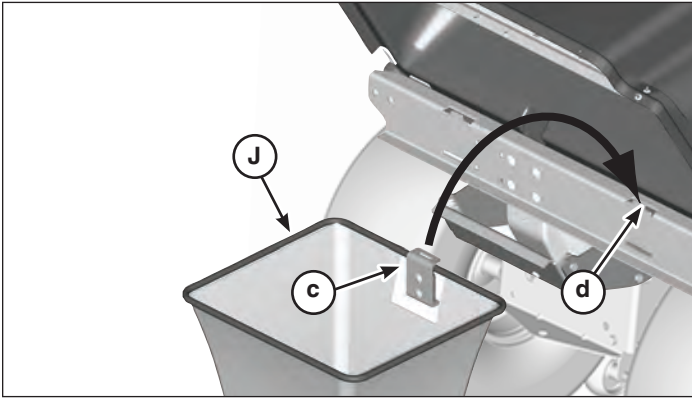

Figure 5
2. Put the bag hangers (c, Figure 5) on the catcher bags (J) onto the hanger posts (d).